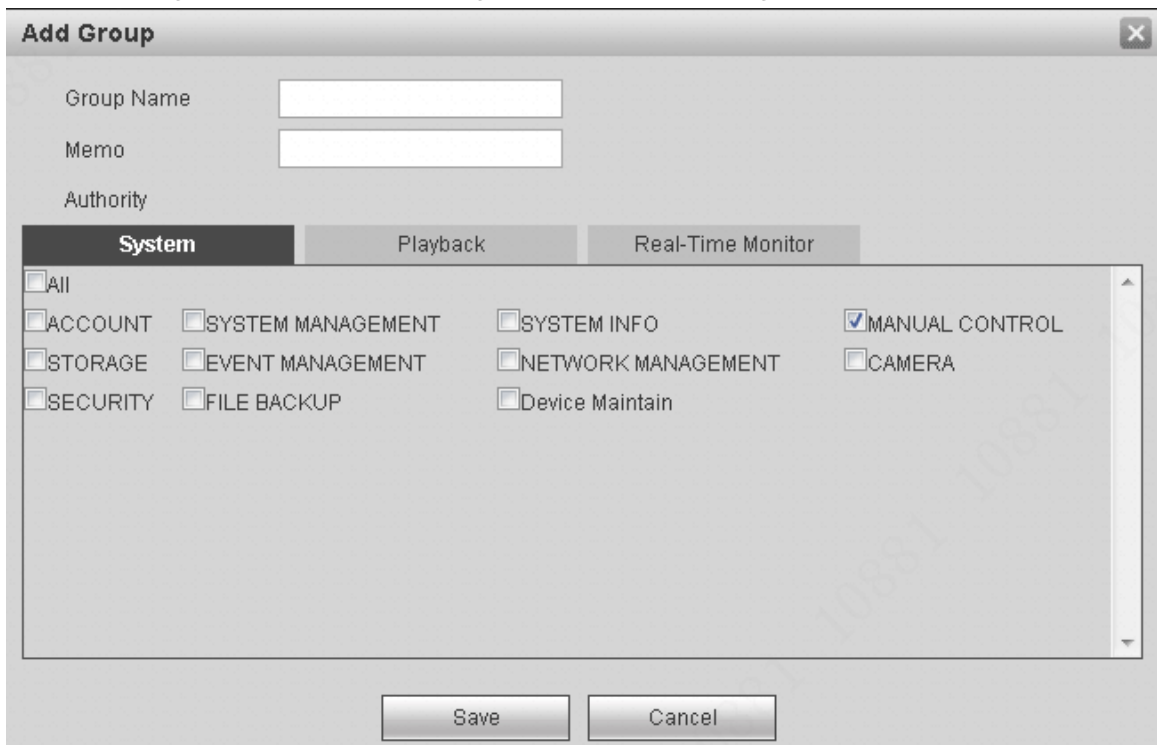

Figure 5-88
Step 1 Click Add group button. Enter add group interface. See Figure 5-88.